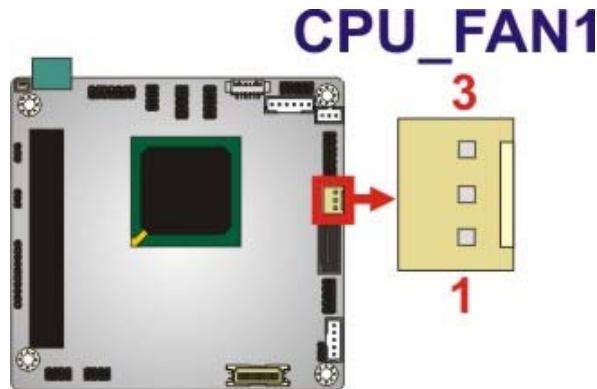

Figure 3-7: Fan Connector Location
**CN Location:** See Figure 3-7